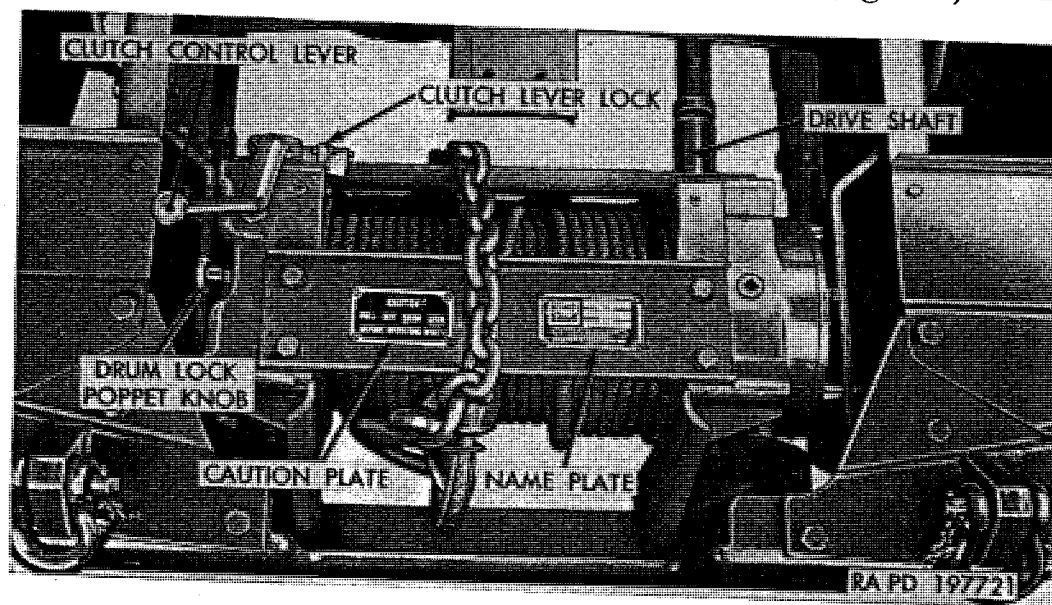

Figure 337. Winch installed.
- (1) *Winch.* The worm-gearred, jaw-clutch, drum winch assembly (when used) is mounted at front of vehicle on support brackets attached to frame side members as shown in figure 337. Winch is driven by power-take-off through a drive shaft. Winch is equipped with a manually operated clutch control lever and a drum lock poppet knob (fig. 337). The